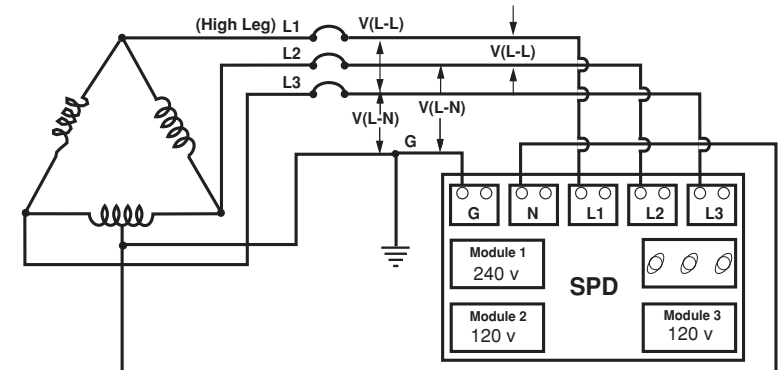
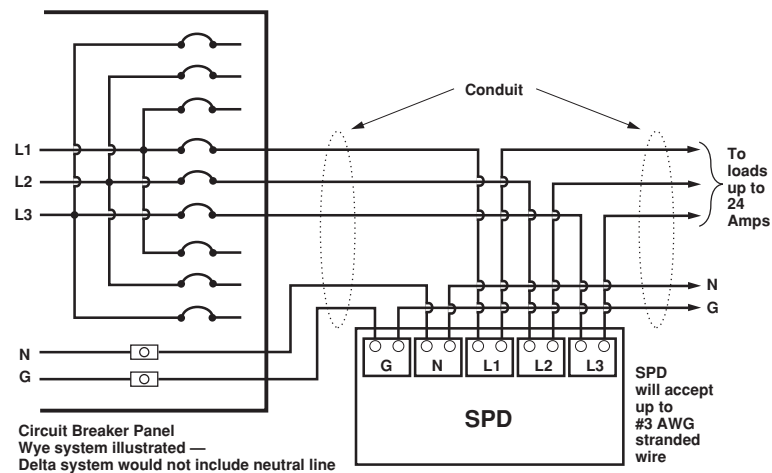

Fig. 6 - Three Phase, High Leg Delta (Cat. No. 52412-DS3)
Fig. 7 - SPD Feed Through Connection
Connecting wire lengths from the circuit breaker panel to the 52000's terminal block should be minimal (less than 18" if possible). Power leads may be connected to L1, L2, and L3 without regard to phase A, B, or C, except for the Three Phase High Leg Delta connection. In this connection, either of the two power leads may be connected to L2 and L3 without regard to phase, but the High Leg power lead must be connected to L1 (**Fig. 6**). **Figs. 7 and 8** illustrate two methods for connection lead attachment.
**In Method 1, Fig. 7**, the SPD Panel provides a feed through connection between the circuit breaker panel and a load.
The ground terminal within the SPD Panel is connected to the metal enclosure. For isolated ground systems, the isolated ground wire should not be connected to the In-Out ground terminals. However, as indicated in step 5, the enclosure must be grounded via a ground conductor to the ground terminal. With the power OFF, connect phase leads to L1, L2, and L3 as indicated in step 4. Connect the neutral, for WYE systems, to the neutral terminal. Connect ground to ground terminal. **Figs. 7 and 8** illustrate alternate connection systems which use circuit breakers (either dedicated or load sharing), or a disconnect switch. Connection leads should be cut to length and wrapped. **Avoid sharp bends.** Lead wire insulation should not be cut or damaged except to expose ends for connection.